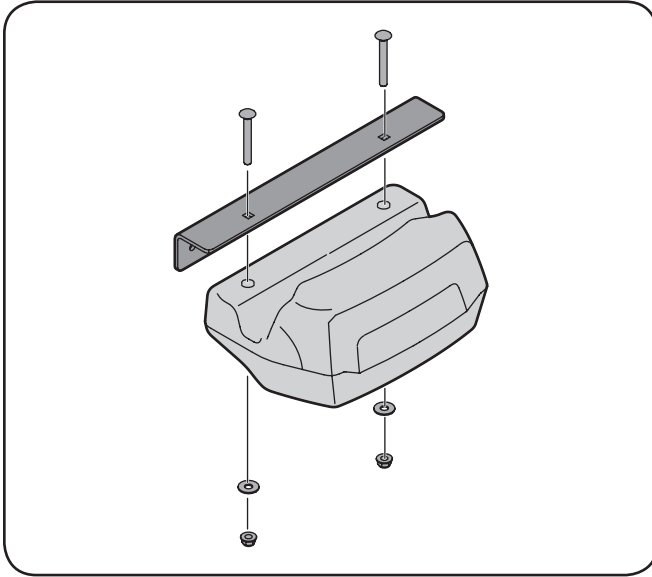
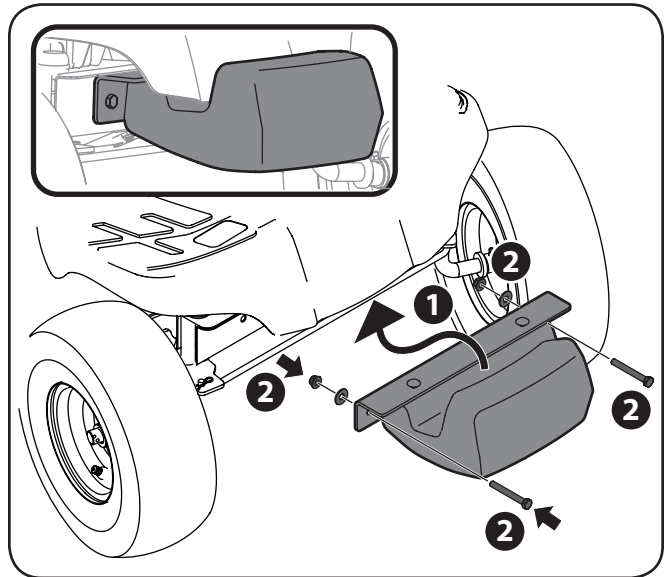

Figure 4-8
Figure 4-10
Assemble, then attach the weight bar to the front steering assembly using the hardware in pack 683-05063, as shown in Figure 4-8 and Figure 4-10.
1. Install the counter weight mounting bracket to the counter weight using two 710-0572 carriage bolts, two 736-0159 flat washers and two 712-04063 flange lock nuts from hardware pack 683-05063. See Figure 4-8.